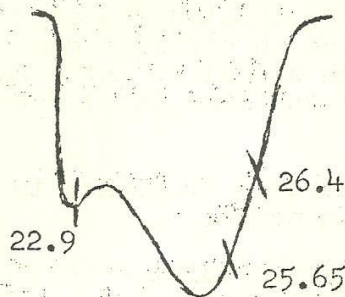

Fig. 3
5. Feed wobbulated signal into grid of first video IF (V201). Adjust L204 and L206 to obtain curve shown in Fig. 3